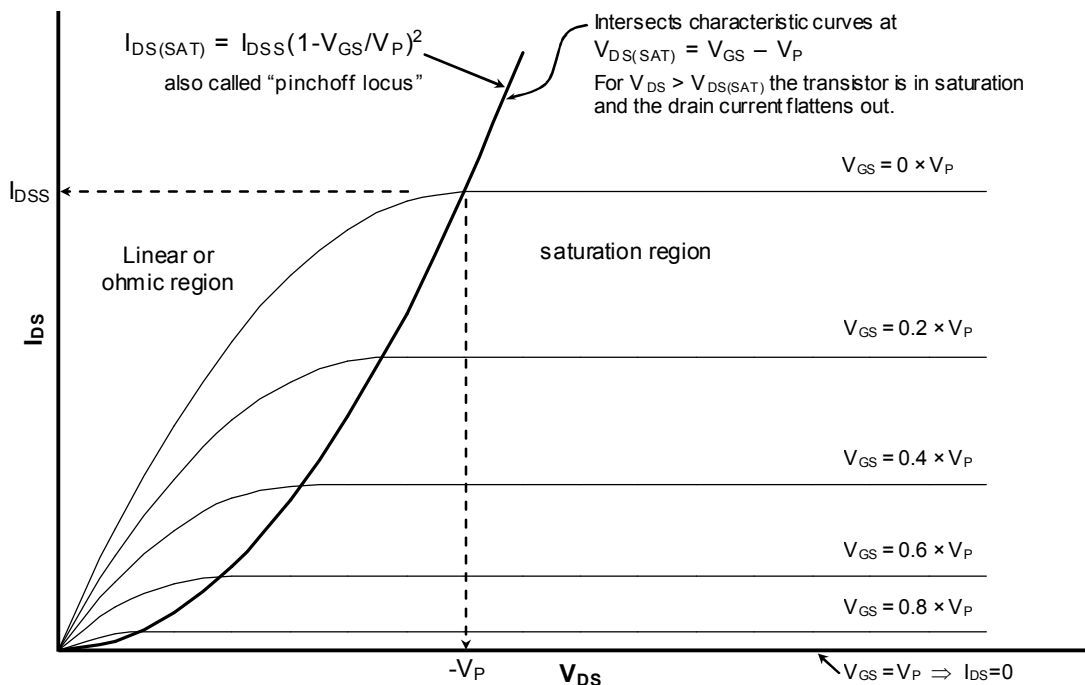

Figure 10.2: Drain characteristics or output characteristics of a JFET
The linear and saturation regions of the JFET operation are shown in Figure 10.2.
Make a couple of copies of the output characteristics. You will need one for Experiment #12. The transistor characteristics in the saturated region should resemble those shown in Figure 10.2. If there is significant drain conductance, then the currents will not be constant in the saturated region.
6. Depress the CURSOR key to move the cursors to the  $V_{GS} = 0$  characteristic curve. Determine the values of  $V_P$  and  $I_{DSS}$  for your transistor (see Figure 10.2). Remember that  $I_{DSAT}$  occurs when  $V_{GS} - V_{DS} = V_P$ . Notice that  $I_{DS}$  is not saturated for values of  $V_{DS} < V_{DS(SAT)} = V_{GS} - V_P$ .